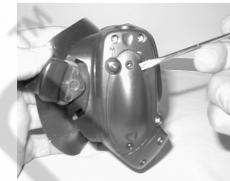

Fig. 115 - BATTERY COVER REMOVAL
- Carefully insert the blade of a screwdriver down along the side of the Cover next to the Depth Sensor (Fig. 115) and lift the Battery Cover out and away from the Housing.